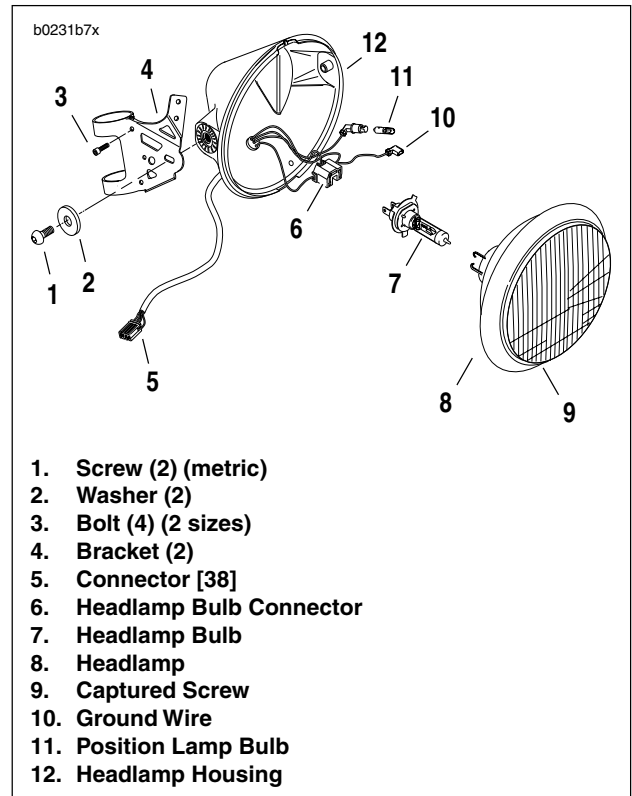
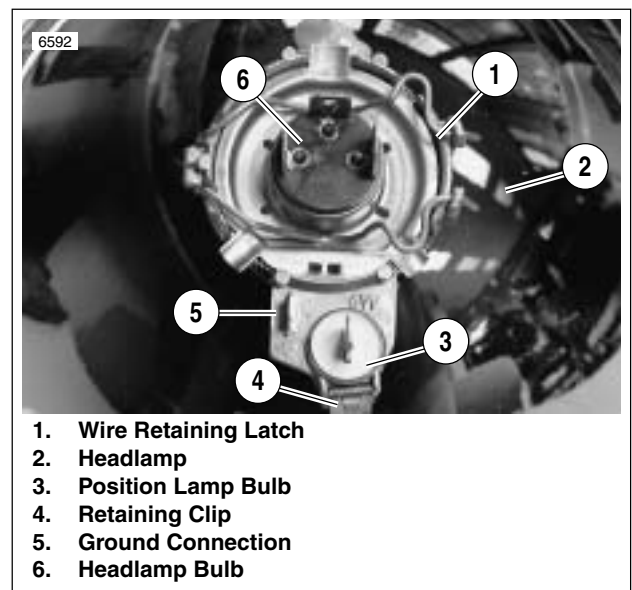

Figure 7-36. Headlamp Assembly
Figure 7-37. Headlamp Bulbs
1. See Figure 7-36. Loosen screw (9) at bottom of headlamp.
2. Pry headlamp (8) from headlamp housing (12).
3. See Figure 7-37. Press retaining clip (4) and remove position lamp bulb (3) from headlamp. Twist bulb to remove from harness.
4. See Figure 7-36. Remove screw (1) (metric) and washer (2) on each side.
- b. Remove four bolts (3) from weldnuts.
- c. Remove front forks and headlamp brackets (4). See 2.16 FRONT FORK.
1. See Figure 7-37. Install headlamp bulb (6).
- b. Close the wire retaining latch (1).
2. Insert position lamp bulb (3).
3. Connect ground wire (5).
4. See Figure 7-36. Place headlamp assembly in housing (12). Tighten screw (9).
- b. See Figure 7-36. Install four bolts (3).
3. See Figure 7-36. Install headlamp housing using two screws (1) (metric) and washers (2). Tighten screws to 6-8 ft-lbs (8-11 Nm).